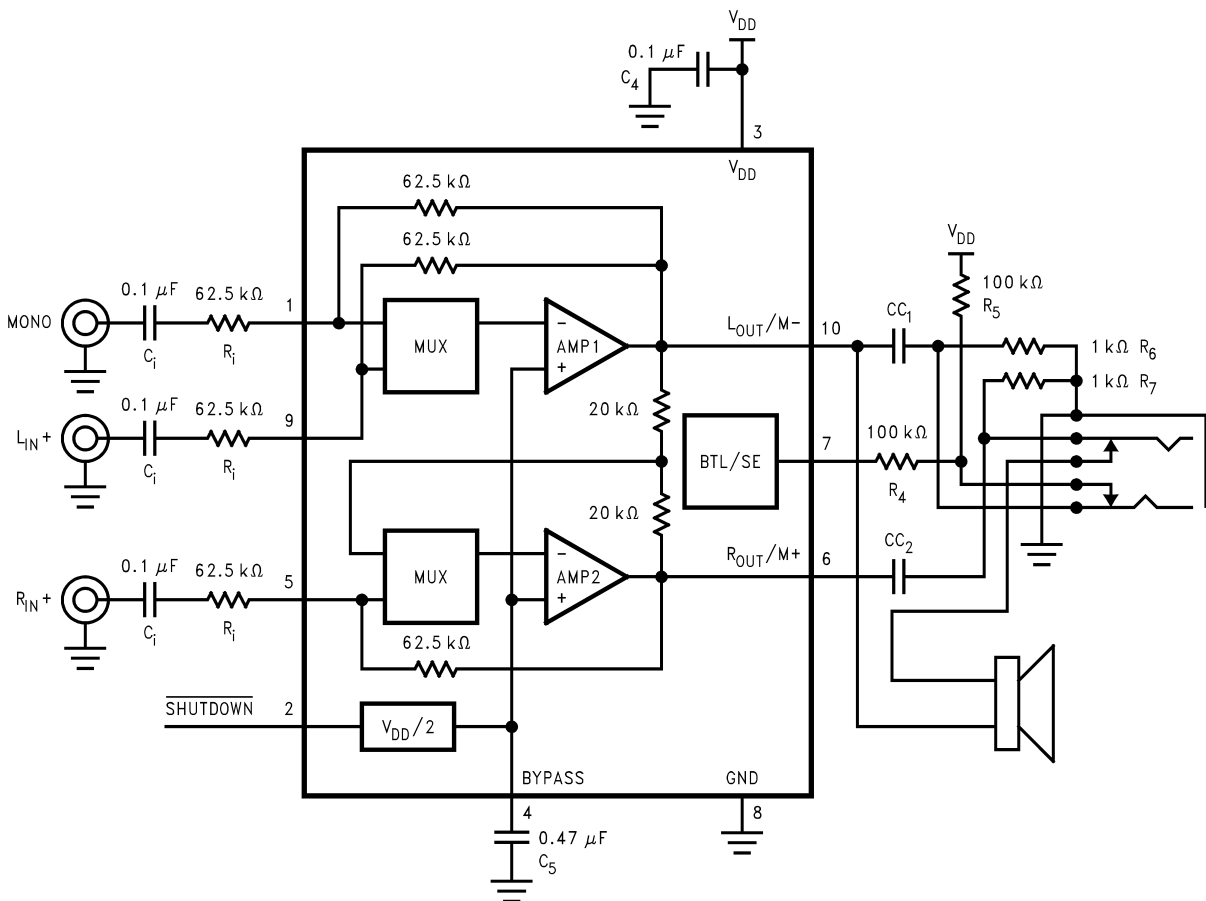

Figure 1. Typical Audio Amplifier Application Circuit
- PSRR (@ 1kHz, $2.9\text{V} \leq V_{DD} \leq 5.1\text{V}$, (Figure 1))
The following specifications apply for the circuit shown in Figure 1 unless otherwise specified. Limits apply for $T_A = 25^\circ\text{C}$. ⁽¹⁾
The following specifications apply for the circuit shown in Figure 1 unless otherwise specified. Limits apply for $T_A = 25^\circ\text{C}$.⁽¹⁾
The following specifications apply for the circuit shown in Figure 1, $R_L = 4\Omega$, and a measurement bandwidth of 20Hz to 80kHz, unless otherwise specified. Limits apply for $T_A = 25^\circ\text{C}$.⁽¹⁾